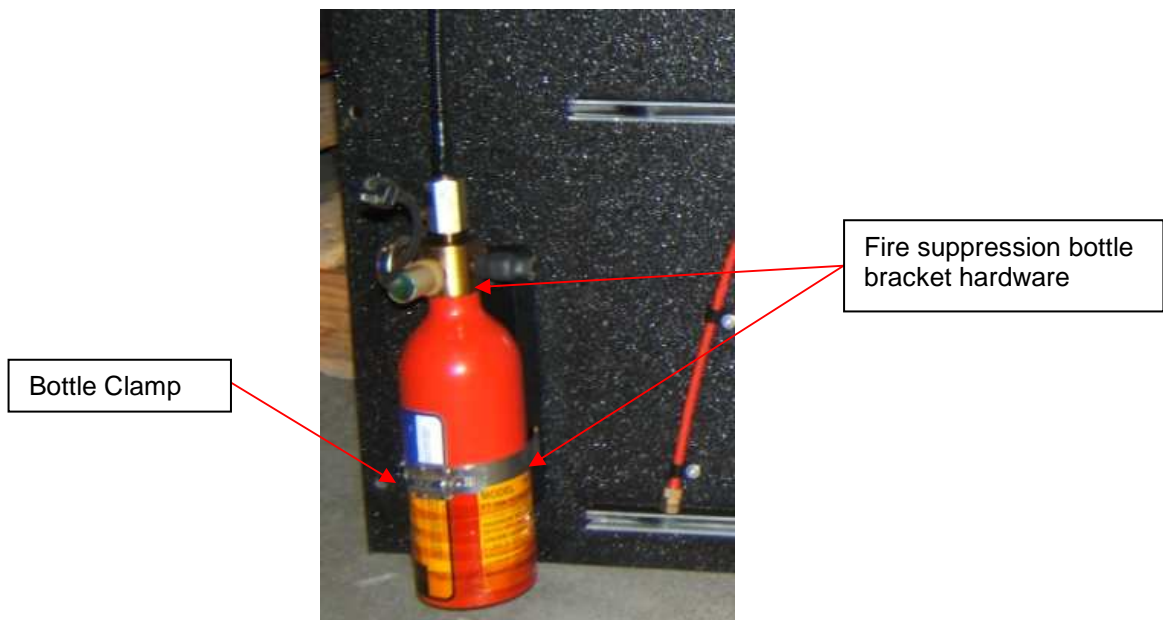

Fig 5 – Fire suppression bottle assembly
- f. Loosen clamp for fire suppression bottle and slide out of bracket. Remove hardware securing fire suppression bottle bracket to the lid. Fig 5.